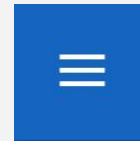
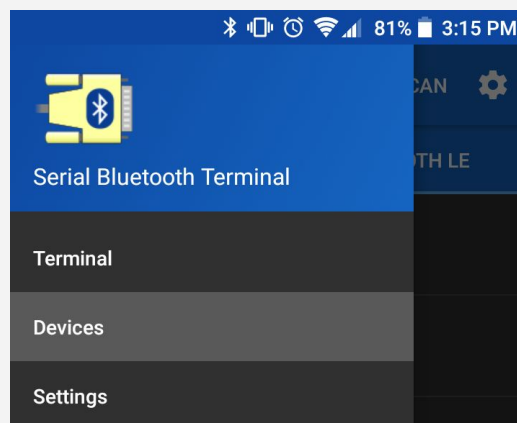

Figure 5
Figure 6
3. Open the app- click the options button (figure 5) and select settings (figure 6).
5. Click options (figure 5), then devices (figure 6)
7. Click "options" (figure 5), then "terminal" (figure 6)